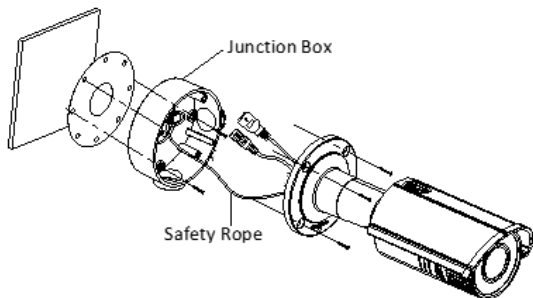

Figure 2-6 Secure the Camera
7. Hook the camera to the junction box with the safety rope. Refer to the Figure 2-6.